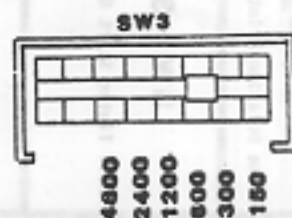

Figure 2-3 Variable Baud Rate Settings.
3.03 Slide switch, SW3, provides a VARIABLE BAUD RATE for transmitting SMDR data to a recording device. The settings for this switch, from right to left are (refer to figure 2-3):